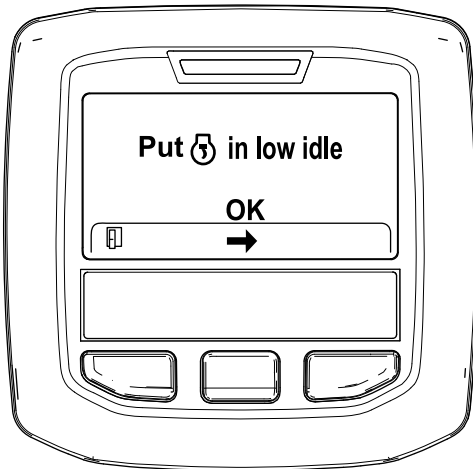

Figure 28
6. Move the throttle control to LOW IDLE and press the center button (Figure 28).